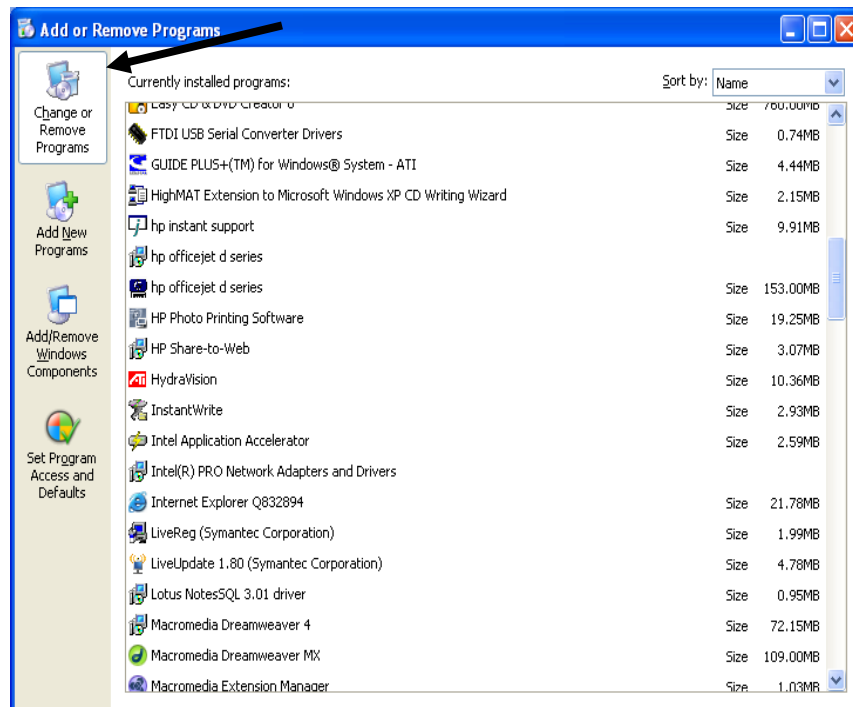

Figure 42
4. Click the **Change or Remove Programs** button (Figure 42).